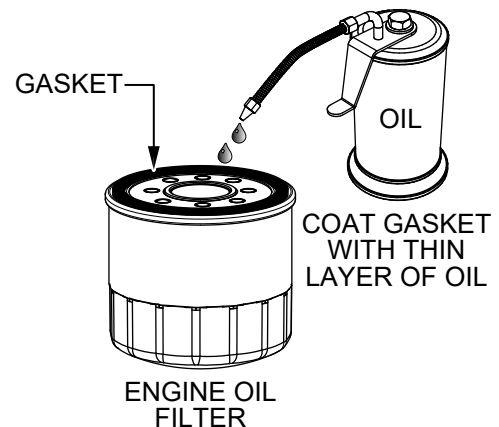

Figure 39. Lubricate New Oil Filter Gasket
11. Lightly coat the **gasket** of the new oil filter (Figure 39) with clean engine oil.